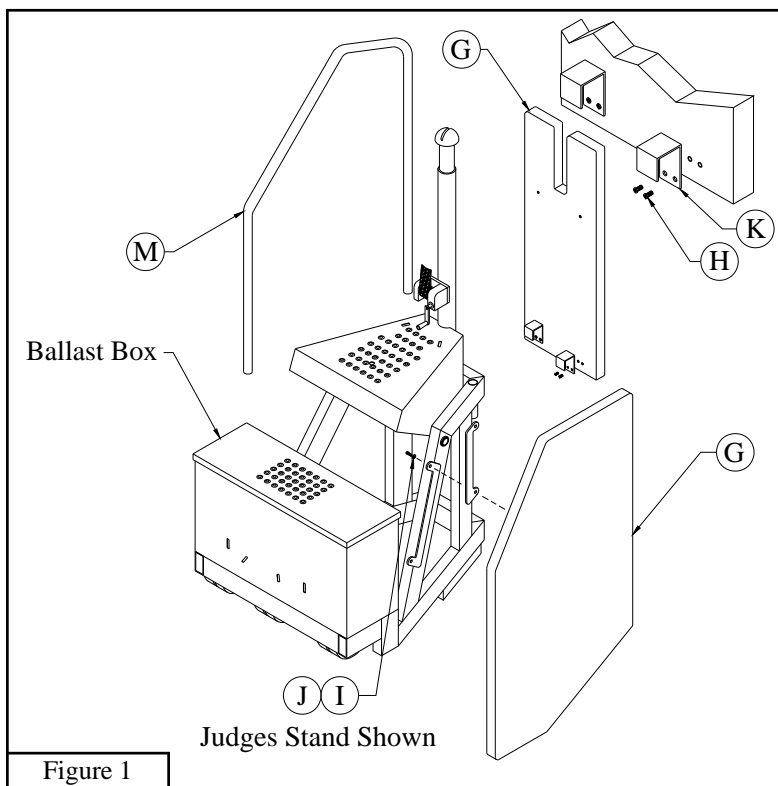

Figure 1
1. Insert both *Hand Rails* (M) into the receiver tubes located in the front frame and front edge of the ballast box on the *VB81 Judges Standard* (A) so that the top of each *Hand Rail* (M) is approximately 78" from the ground, *Hand Rails* (M) may be set at other heights. Tighten pre-installed set screws securely at each location with the *3/16" Hex Key* (P). See Figure 1.
2. Use the *1/4" X 1" Hex Bolts* (I) and *1/4" Flat Washers* (J) to attach the *Left and Right Base Pads* (G) to both *VB81 Standards* (A). See Figure 1.
3. Use the *1/4" X 3/4" Flat Head Screws* (H) to attach *Pad Brackets* (K) to the *Front Pad* (G). Hang the *Pad Brackets* (K) attached to *Front Pad* (G) over the bottom front frame tube of the *VB81 Standards* (A), push down to secure. Use *1/4" X 1" Hex Bolts* (I) and *1/4" Flat Washers* (J) to attach the top of *Front Pad* (G) to the underside of the front frame tube of the *VB81 Standards* (A). See Figure 1.